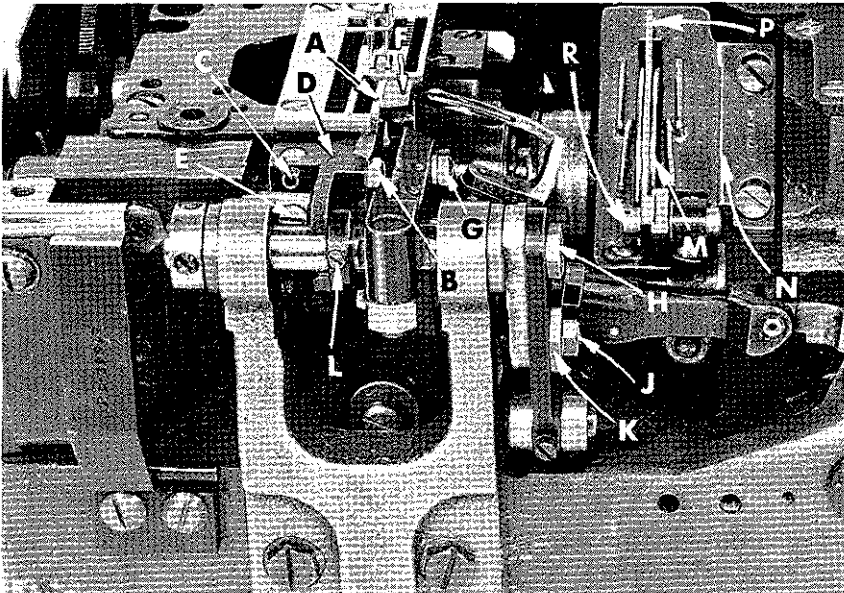
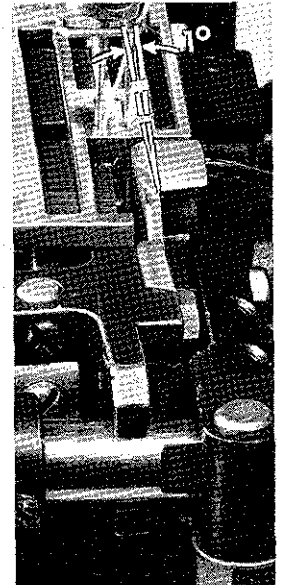

Fig. 18
Fig. 18A
The lower knife (A, Fig. 18) should be set with cutting edge flush with throat plate surface, at approximately a one degree shear angle (Fig. 18A). Adjustment can be made by loosening hexagonal head screw (B, Fig. 18) permitting lower knife to be moved up or down; loosening (2) screws (C) will allow positioning of lower knife block (D) to obtain the proper shear angle. Never loosen screw (E) for adjusting purposes, it should remain tight at all times. After adjustments are made, tighten screws (B and C) securely.
The upper knife (F, Fig. 18) should be set to align its cutting edge with the centerline of right needle and to engage lower knife for full cutting length. This can be accomplished by loosening screw (G) permitting upper knife to be moved forward or rearward; loosen screws (H and J) and turn eccentric (K) as required to obtain proper positioning for up and down movements. Retighten screws securely.
With upper knife in UP position, set and lock collar (L, Fig. 18) so it barely contacts lower knife block (D).
The looper thread take-up (M, Fig. 18) is not spotted on the main shaft and, consequently, can be set to compensate for varying conditions. It is set correctly when the looper thread is just cast off the highest lobe of the take-up when the point of the left needle is clearly visible below the underside of the looper. The cast-off plate assembly (N) is adjustable, and its setting determines the amount of thread pulled off by the take-up. Moving the cast-off plate assembly up towards the bottom of the screw slots causes more thread to be pulled from the cones, and moving the cast-off plate assembly down towards the top of the screw slots causes less thread to be pulled. The cast-off plate assembly is set correctly when the looper thread just becomes taut as the looper reaches its extreme position to the left. Additional looper thread control can be obtained by raising or lowering the retaining finger (P) which is secured by screw (R). The retaining finger should be centered in the take-up disc with its bottom edge set parallel to and approximately $3/16$ inch (4.76 mm) above cast-off plate assembly.